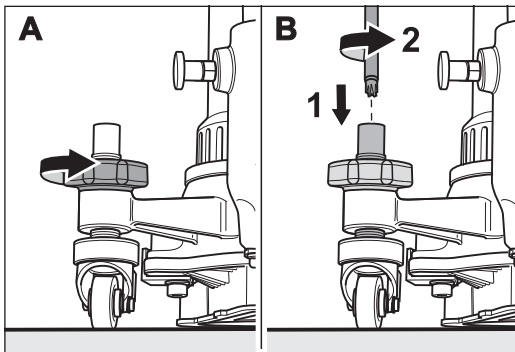

Fig. 56 Undo the locknut on the guide roller.
- 2 Loosen the locknut of the guide roller to be adjusted (fig. 56, **A**).
If the locknut is screwed on too tightly, you can turn the vertical guide roller axis counterclockwise with the universal spanner to loosen the locknut (fig. 56, **B**).
- Remove the locknut of the guide roller (fig. 56).